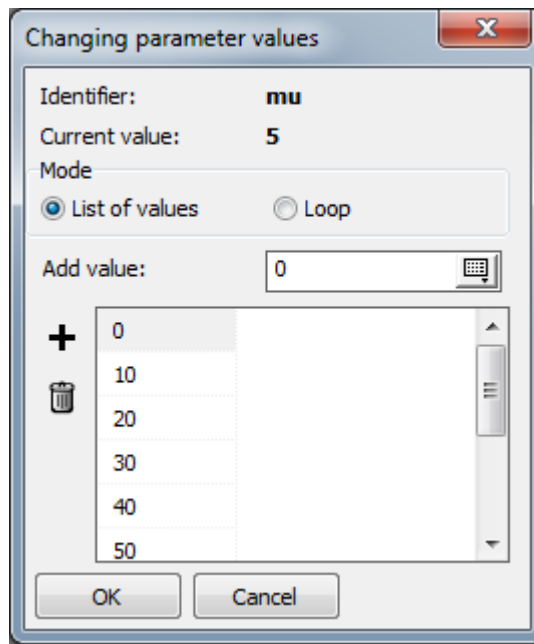

Figure 2.5. Changing parameter values
2. **Changing parameter values** window appears. Add values {**0, 10, 20, 30, ... , 100**}, 11 values total, see Figure 2.5.